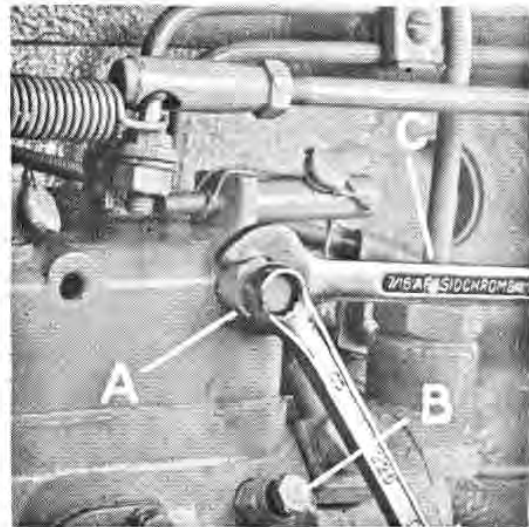

Fig. D24 — Venting the Fuel System
(a) Slacken the air vent screw (A) on the top of the governor control cover. (Fig. D24).